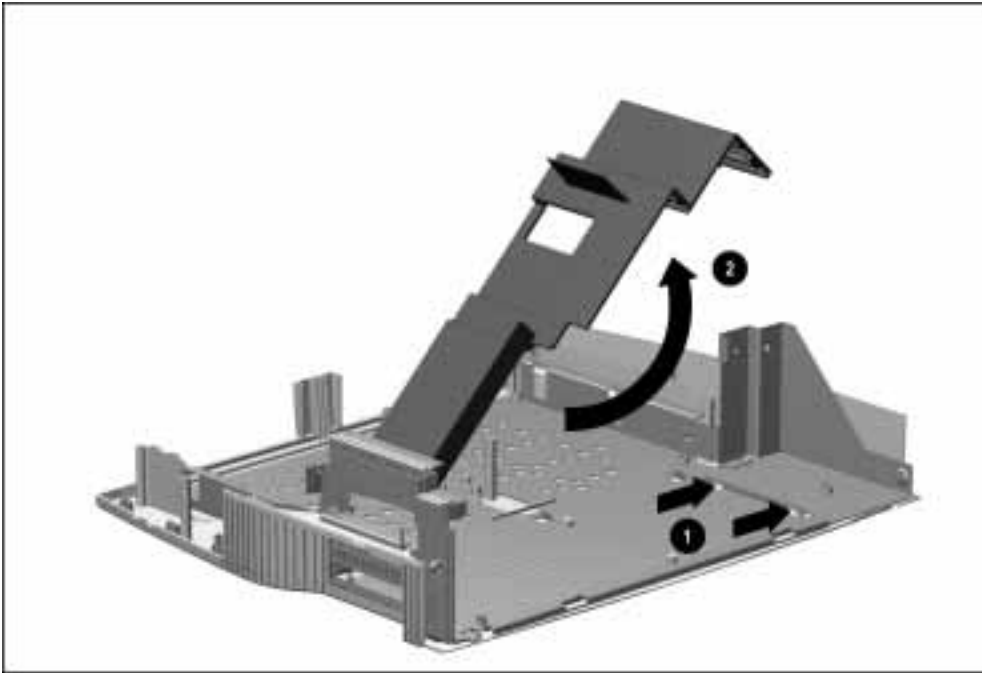

Figure 5-55. Releasing the Expansion Card Cage
- Flex the right bottom side of the expansion card cage away from the retainer on the base assembly ❶ and swing the cage up and away ❷ (Figure 5-55).